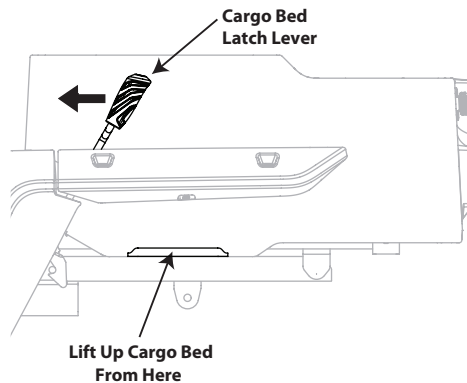

Figure 4-7
3. For light loads, unlatch cargo bed by pulling up on one of the cargo bed release levers. While holding the cargo bed release lever forward with one hand, lift the cargo bed with your other hand. See Figure 4-7.